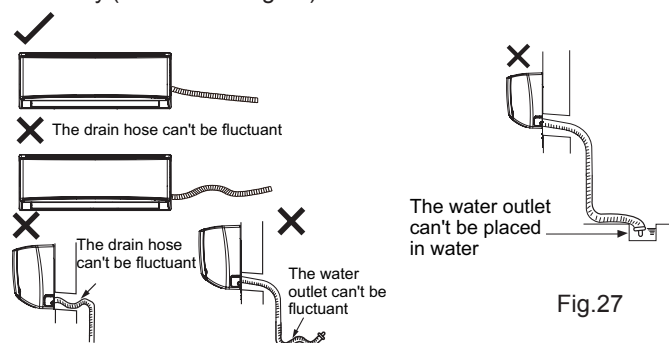

Fig.26
- (2) Slant the drain hose slightly downwards. The drain hose cant be curved, raised and fluctuant, etc.(As show in Fig.26)